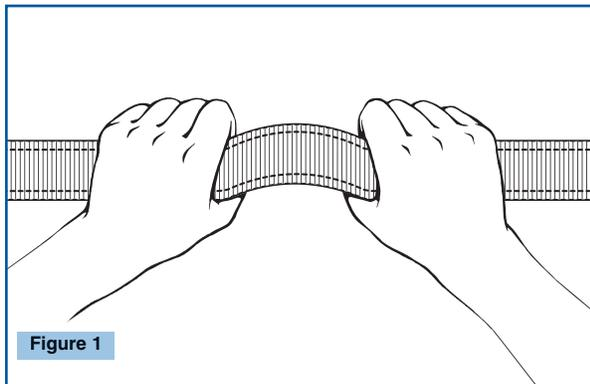

Figure 1
- 1. Inspect stitching and webbing.** Check stitching for broken, burned, cut, or pulled stitches. Broken strands appear as tufts on the surface. To inspect, hold the webbing with your hands six to eight inches apart. Bend the webbing in an inverted "U" to cause surface tension, exposing problem areas. Inspect all web areas. Damage from cuts, abrasions, corrosives, heat, or chemicals should be apparent. (See Fig. 1)